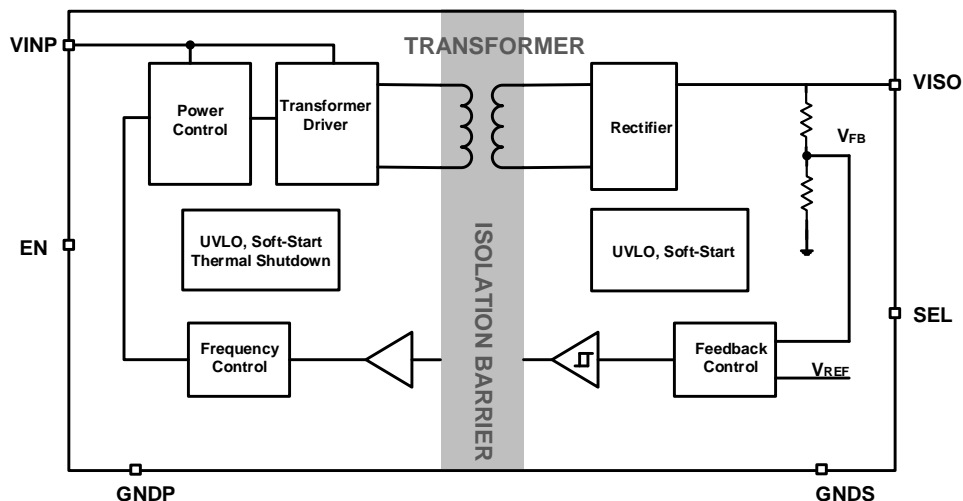

Figure 8-1. Functional Block Diagrams
The CA-IS3115AW is a family of complete isolated DC-DC converters designed to provide isolated power with up to 1.5W output power across a 5kV_{RMS} isolation barrier. The devices operate over 4.5V to 5.5V input voltage range and use a proprietary control mechanism. The input supply V_{INP} is provided to the primary power controller that switches the power stage connected to the integrated transformer. Power is transferred to the secondary side and regulated to a fixed output voltage set by the SEL pin. The soft-start feature allows to reduce input inrush current and avoid output overshoot. These devices also incorporate an output enable (EN) control and undervoltage lockout(UVLO) function that allows the user to turn on the part at the desired input-voltage level. Figure 8-1 shows the CA-IS3115AW's functional block diagram. Connect the EN pin to V_{INP} or force this pin high to turn on the DC-DC converter. Force this pin low to disable the device and enter low-current shutdown mode. These devices offer a ready-made, reliable, easy-to-use solution and allow users save PCB space and reduce design time for the popular 5V, 3.3V power supply systems.